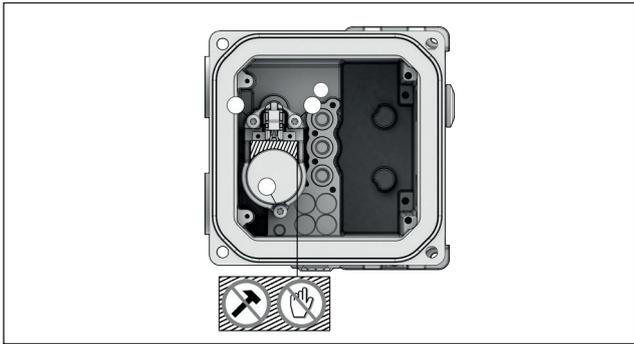

Fig. 96. NDX_511_ and NDX_512_
- Unplug the prestage wire connector from the prestage (Fig. 96)
- Loosen the screws holding the prestage in place. (Fig. 96)